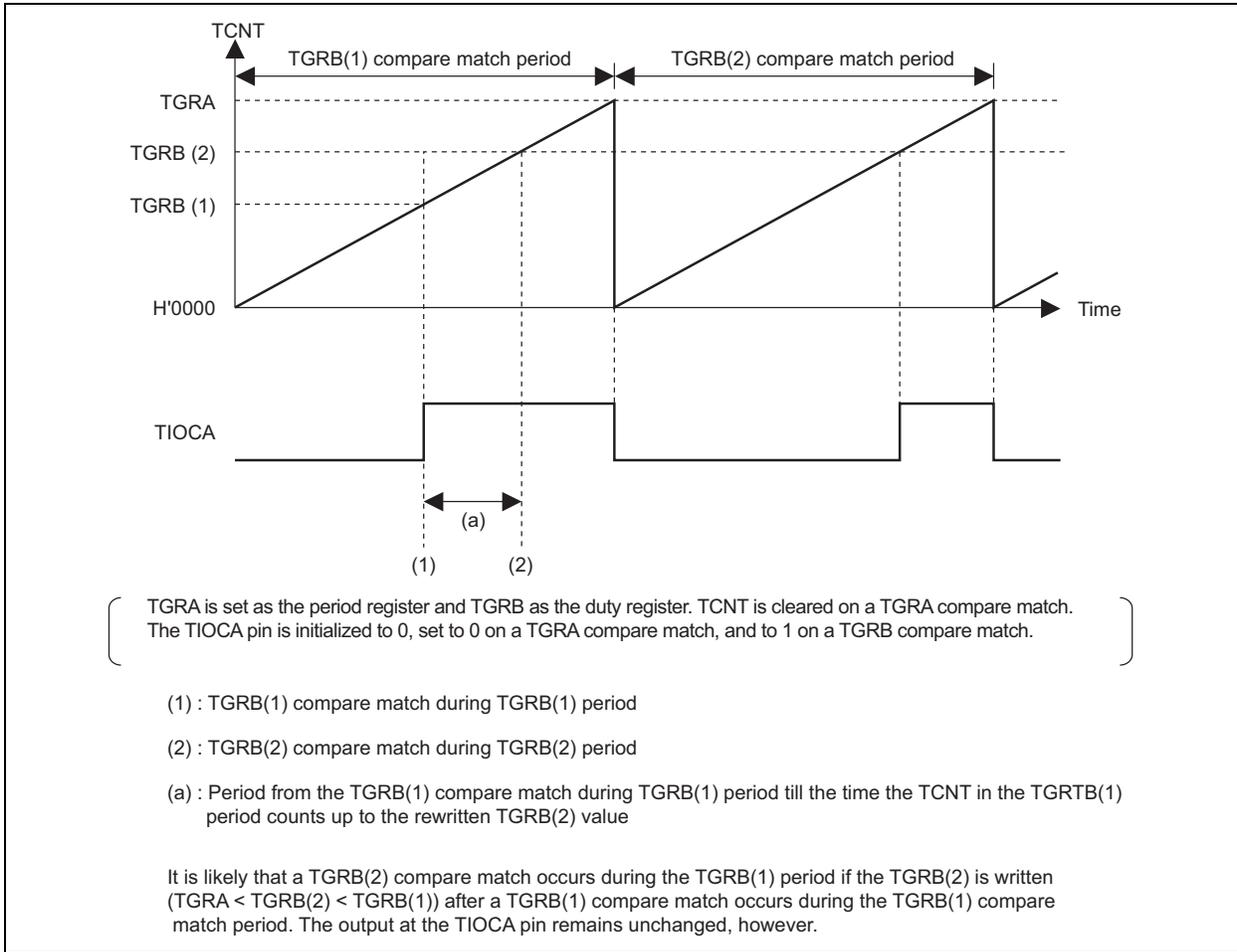

Figure 13 Considerations to be Given to when Rewriting at the Timing of a Duty Register (TGRB) Compare Match (2)
The TGRB(2) compare match during the TGRB(1) period shown in figure 13 can be avoided by writing TGRB(2) after monitoring the TCNT on the first TGRB(1) compare match and verifying the condition $TCNT \geq TGRB(2)$.